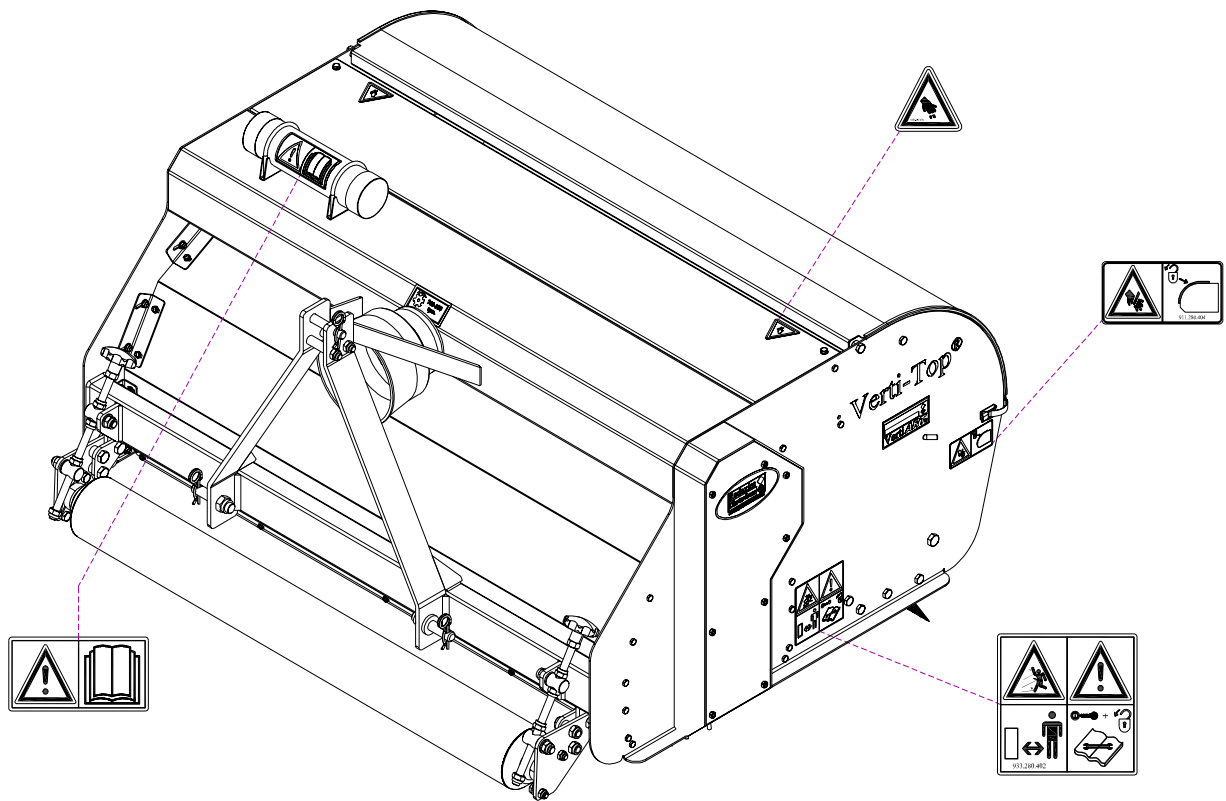

Fig. 7
On both sides of the Verti-Top, safety stickers (Fig. 3, 4, 5) have been applied to the sideboards and to the back cover (Fig. 7) showing these warnings. Make sure these safety stickers are always clearly visible and legible. Replace them if they are damaged.
(7) Location of safety stickers (Fig. 7)